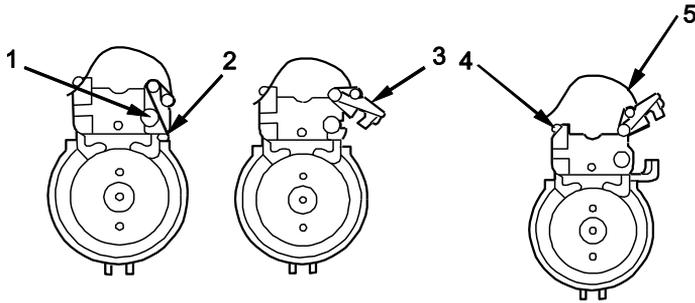

Figure 14
1. Hold retaining spring (Figure 14 Item 2) away from plunger (Figure 14 Item 1).
2. Depress plunger (Figure 14 Item 1).
3. Rotate latch lever (Figure 14 Item 3).
4. Disengage latch arm (Figure 14 Item 5) from hook (Figure 14 Item 4).
5. Press latch lever (Figure 14 Item 3) fully downward until engages plunger (Figure 14 Item 1).
6. Rotate latch arm (Figure 14 Item 5) up and out of the way to its fully open position.